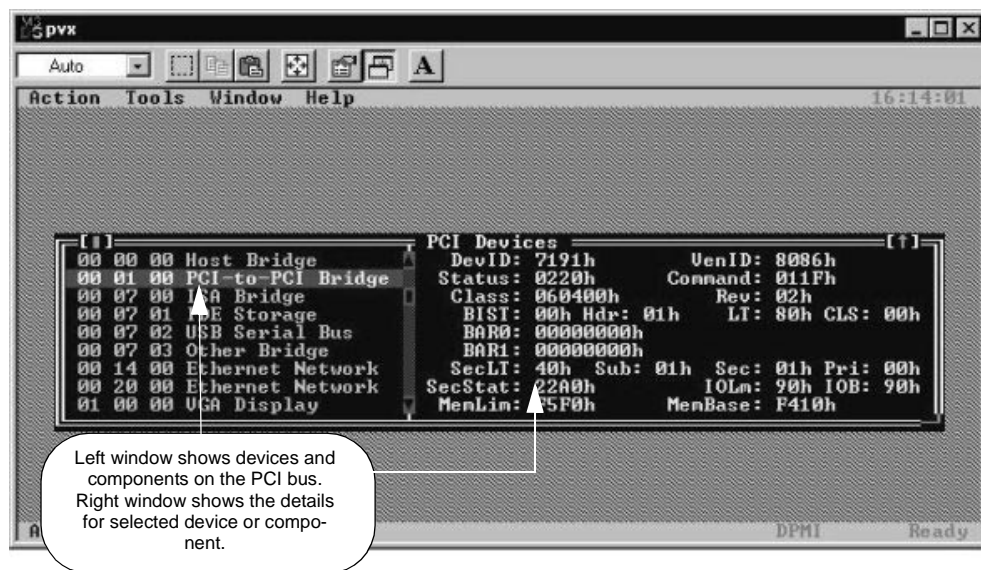

FIGURE 51. Scanning Device Information in Detail
2. Point and click on a device or component in the list or press the Space bar while a device or component is highlighted to display details on that device or component, as shown in Figure 51 on page C-16.